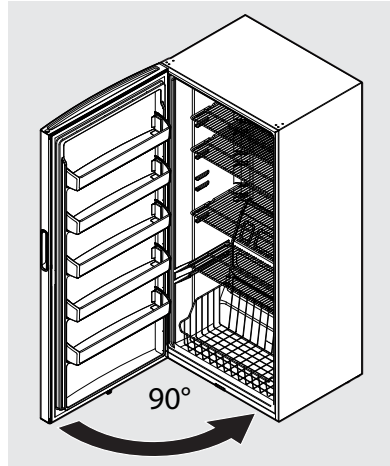

Figure 9
19. Slide the door onto the bottom hinge pin at 90° to the freezer cabinet and close the door (see Figure 9).